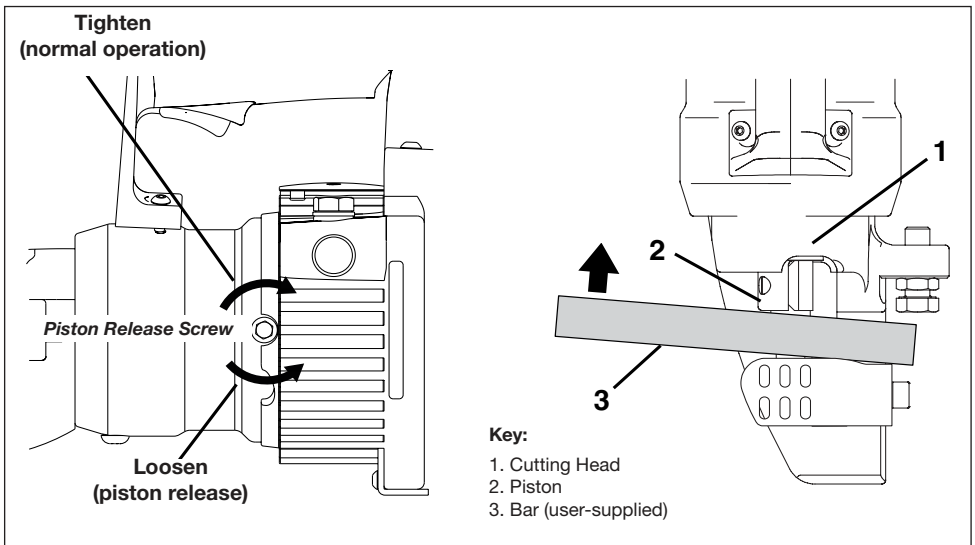

Figure 11, Piston Manual Retract Procedure
Refer to the following steps. See Figure 11:
4. Using a rigid piece of steel bar, manually push the piston inside the cutter until it is returned to the home position. See Figure 11, item 3. This should dislodge any dirt or other material that had prevented the piston from returning during normal operation.
8. Clean the exposed portion of the piston. Remove any debris, chips or dirt from this area. See Figure 11, item 1.